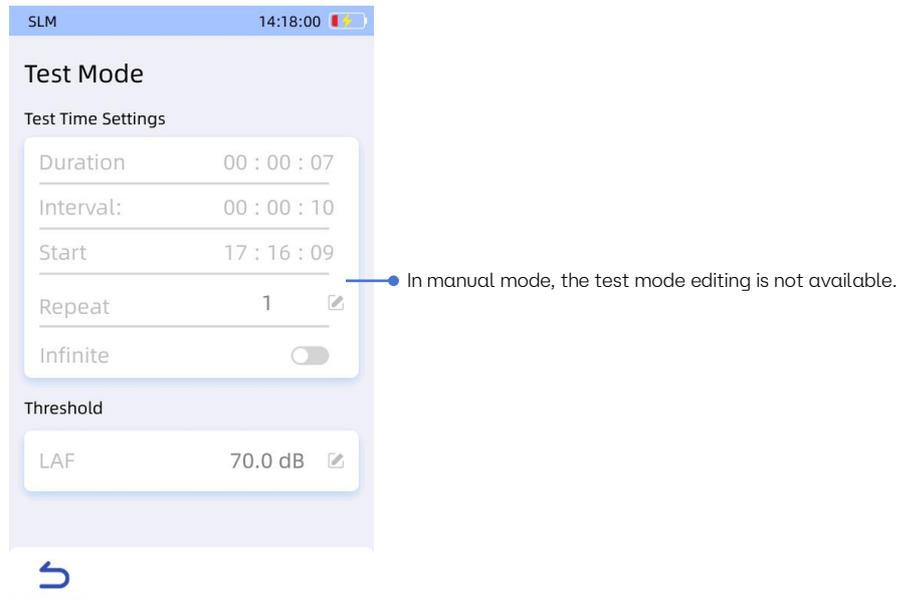

Fig 6.14 Manual Mode Parameter Settings
- a. Manual Mode: The user manually starts and stops the measurement from the main interface button area. Figure 6.14 shows that in manual mode, the test is controlled solely by user actions, making any time settings in the test mode configuration ineffective and uneditable.